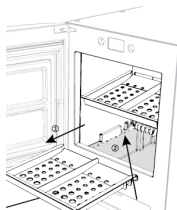

Fig. 2, remove lower shelf and fill reservoir with clean water to the fill line.
6. Remove the lower ice shelf, and fill the ice maker with clean water up to the maximum fill line (marked on the inside of the reservoir). Replace lower ice shelf. See Fig. 2.